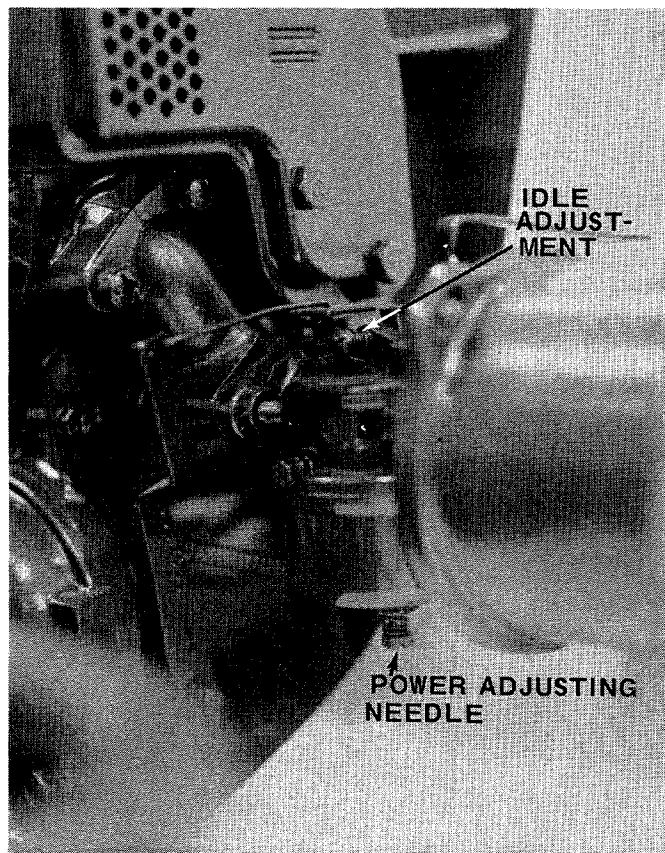

FIGURE 29
### CARBURETOR ADJUSTMENTS (See figure 29)
- Close power adjusting needle (figure 29) by turning to right (clockwise). Close finger tight only. Forcing will cause damage.
- Close idle adjusting needle (figure 29) by turning to right (clockwise). Close finger tight only. Forcing will cause damage.